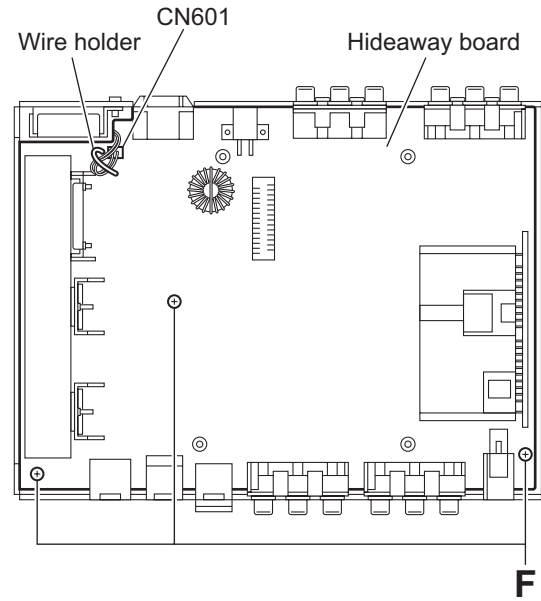

Fig.6
- (2) From the top side of the main body, disconnect the wire from the connector CN601 on the hideaway board. (See Fig.6.)
After connecting the wire to the connector CN601, fix it with the wire holder as before. (See Fig.6.)
- (3) Remove the three screws **F** attaching the hideaway board. (See Fig.6.)
- (4) Take out the hideaway board from the bottom chassis assembly.